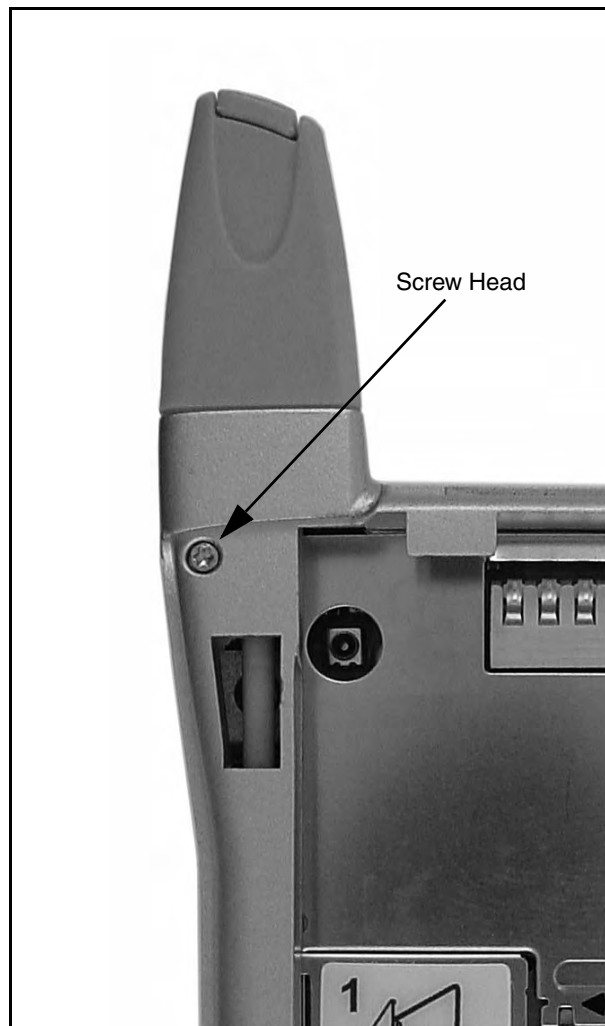

Figure 7-3.
1. Remove battery cover. Locate T4 screw head at base of antenna (see Figure7-3).